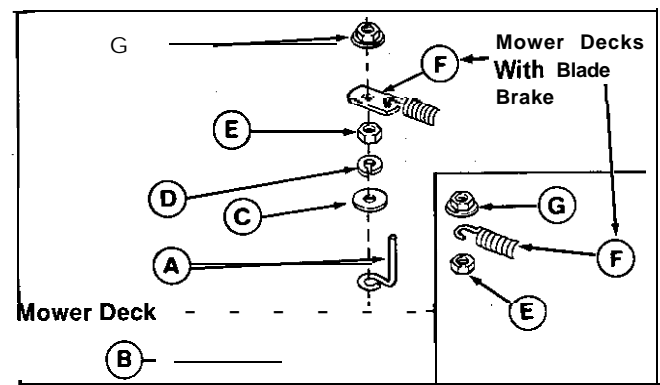

Figure 9B. Front Belt Stop
6. Install the front belt stop (A, figure 9B) (onto 5/16-18 x 1-1/2 capscrew installed in step 3) as shown. If removed, reinstall brake spring **or** spring anchor (F) before flange nut (G). Tighten nut (E) snug only-belt stop will be adjusted in step 8.